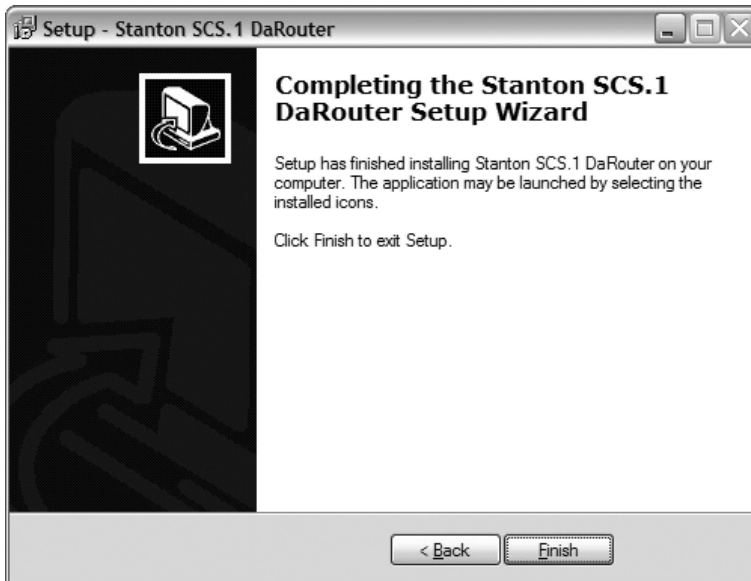

Figure 4.12
12. Click **Finish**. (Figure 4.12)